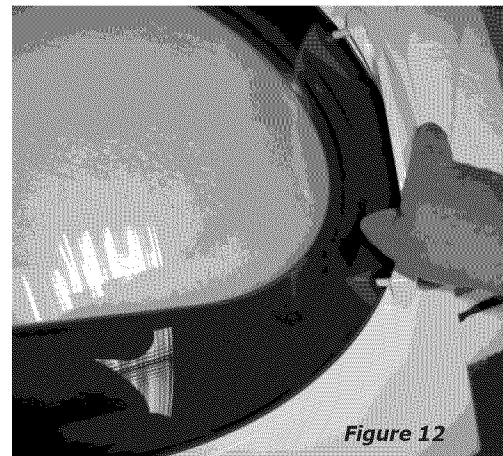

Figure 12
- 18 Reinstall door handle by placing the handle mounting bosses through holes in lens and transition ring and installing screws through inner door and tighten into handle bosses. (Figure 12)